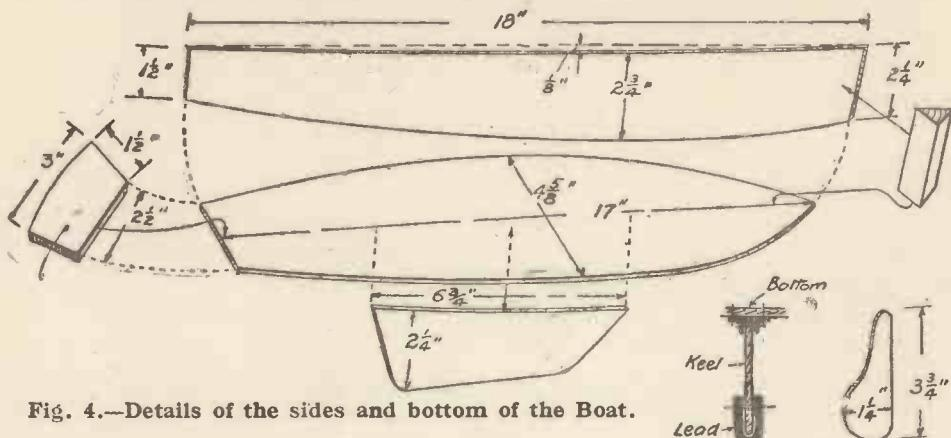

Fig. 4.—Details of the sides and bottom of the Boat.
Having planed up the edges of the wood to the required shape, the triangular piece of wood shown in Fig. 4, forming the stem of the boat, should be made.
**The Transom.**—The stern piece, or transom (Fig. 4), should be made of thicker stuff than the rest of the hull—say  $\frac{5}{16}$  in. thickness wood of close grain—and be very slightly carved on the top line. The stern end of the sides will require planing at an angle so that they meet without a gap when fixed up to the stem piece.
**Building Up.**—When the stern joint is secured, a series of blocks, into which the bow of the boat may be forced, should be nailed down to the bench (or to a building-board on the bench), or drawing board. The bottom plank can then be panel-pinned to the sides, drawing the latter to the correct deck plan curve, and bending the bottom board down simultaneously, as the nailing-up proceeds. As soon as the building process reaches the stern end of the hull, the transom piece (Fig. 4) may be inserted, and, except for fixing the deck and the keel, the main part of the hull is completed. Another method would be to secure the sides to the stern transom, after the stern end is finished, by screws only. Then, by making temporary cross-pieces out of odd pieces of wood, the sides are bulged out to the required shape.
This shape can be judged by trying the job, deck edge downwards, on to the bottom plank. The work then proceeds as already described. When the bottom plank is fixed, see Fig. 4, the transom can be temporarily removed to secure it by glue as well as the screws.
**Rudder and Mast.**—The shape of the rudder (made out of  $\frac{1}{8}$ -in. wood) is shown in Fig. 4. All edges should be glass-papered to a rounded shape. It is attached to the hull by a small brass hinge. The hinge should be let in, to a slight extent, into the side of the rudder, so that the rudder will swing an equal amount in both directions. The tiller is made of brass wire pushed into a hole in the head of the rudder.